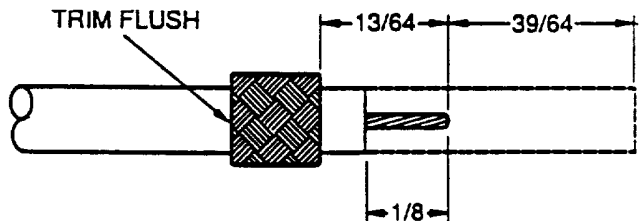

Figure 34. Trim Braid
c. As shown in Figure 34, fold braided shield back tightly over inner, sleeve and trim braid flush with back end of sleeve.